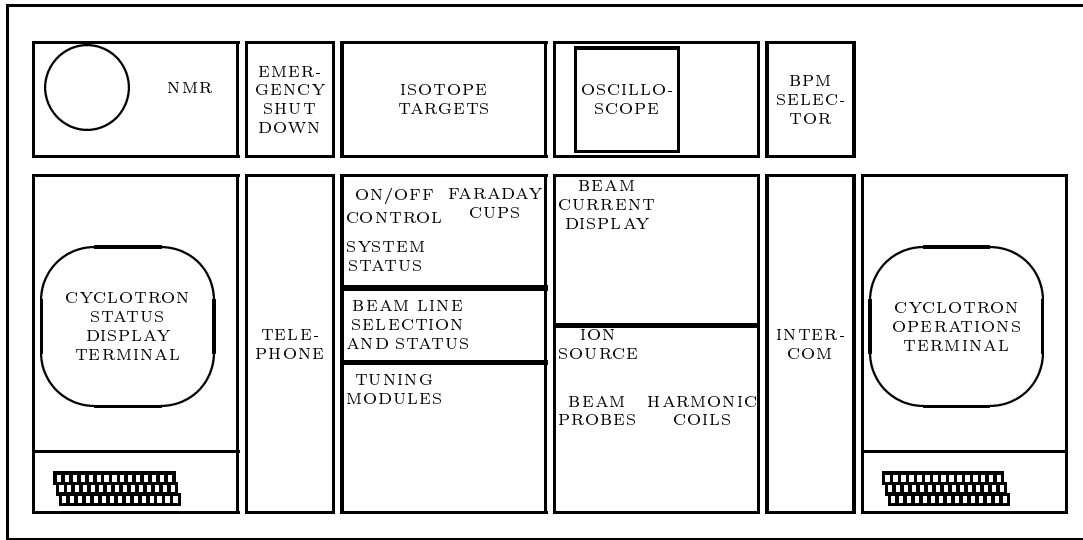

Figure 3.1: Cyclotron control console
This chapter describes the cyclotron control console, also called the *control desk* (CD). The cyclotron control console (Fig. 3.1) houses several panels, each holding a functionally related set of controls and indicators. The console also houses two terminals, the Cyclotron Operations Terminal and the Cyclotron Status Terminal. The operations performed at these two terminals are described in chapters 4 and 5.
The following sections describe each of the controls and indicators on the following panels, most of which are shown in Fig. 3.1.
Other panels shown in Fig. 3.1 are not described; their functions are not considered part of the control system.